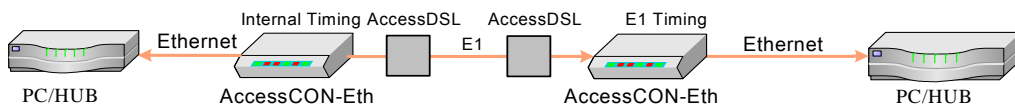

Figure 1.3 Internal timing mode
- Internal timing mode: The AccessCON-Eth E1 link transmit signal is derived from the internal clock oscillator. This timing mode used is necessary in point-to-point application over leased lines, e.g., short-range applications, where one AccessCON-Eth must provide the timing reference for the link. (Figure 1.3) In this case, one AccessCON-Eth must use the internal oscillator, and other must operate on the recovered clock signal.